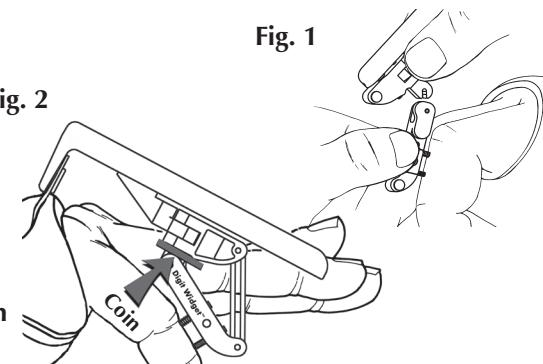

Fig. 2
**An alternative method using only one hand:** Leaving the Hook and Loop Tab in place, insert a coin in the space between the Pin Block and Connector Assembly from the side as shown (Fig. 2). Turn the coin as you would rotate a key to force the two pieces apart. The coin technique will only work on the side of the Pin Block that has the printed words “Digit Widget.” Proceed with steps 2 and 4.